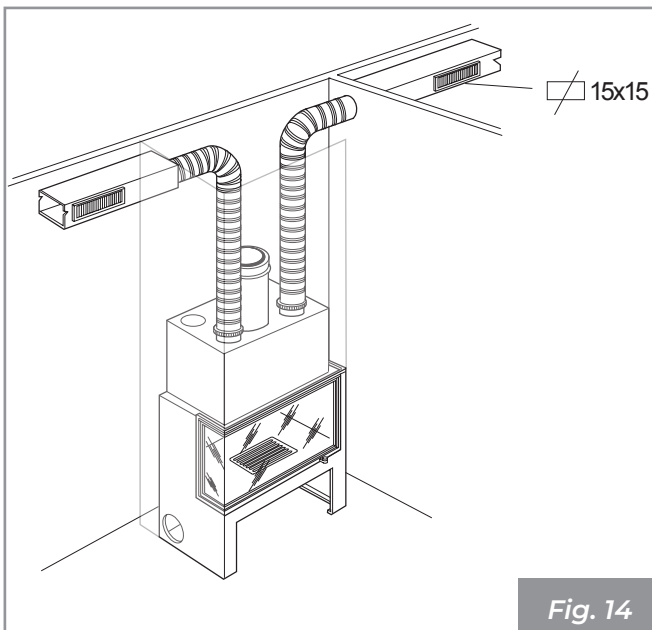

Fig. 14
- Flexible aluminium hose - length up to 6 m on a single duct **(Fig. 14)**;
- Smooth metal pipe - length up to 10 m on a single duct **(Fig. 14)**;